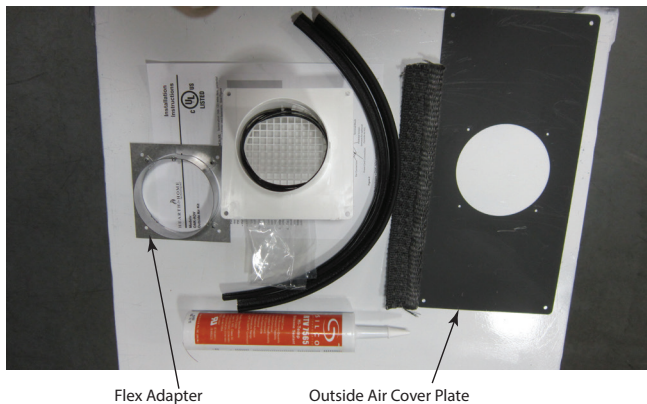

Figure 5.9
**Included in kit:** Termination cap, (2) wire ties, pedestal coverplate, flex adapter, and fasteners. (2) 19-3/4" rubber gasket, 12" piece of rope gasket, and silicone. See Figure 5.9.